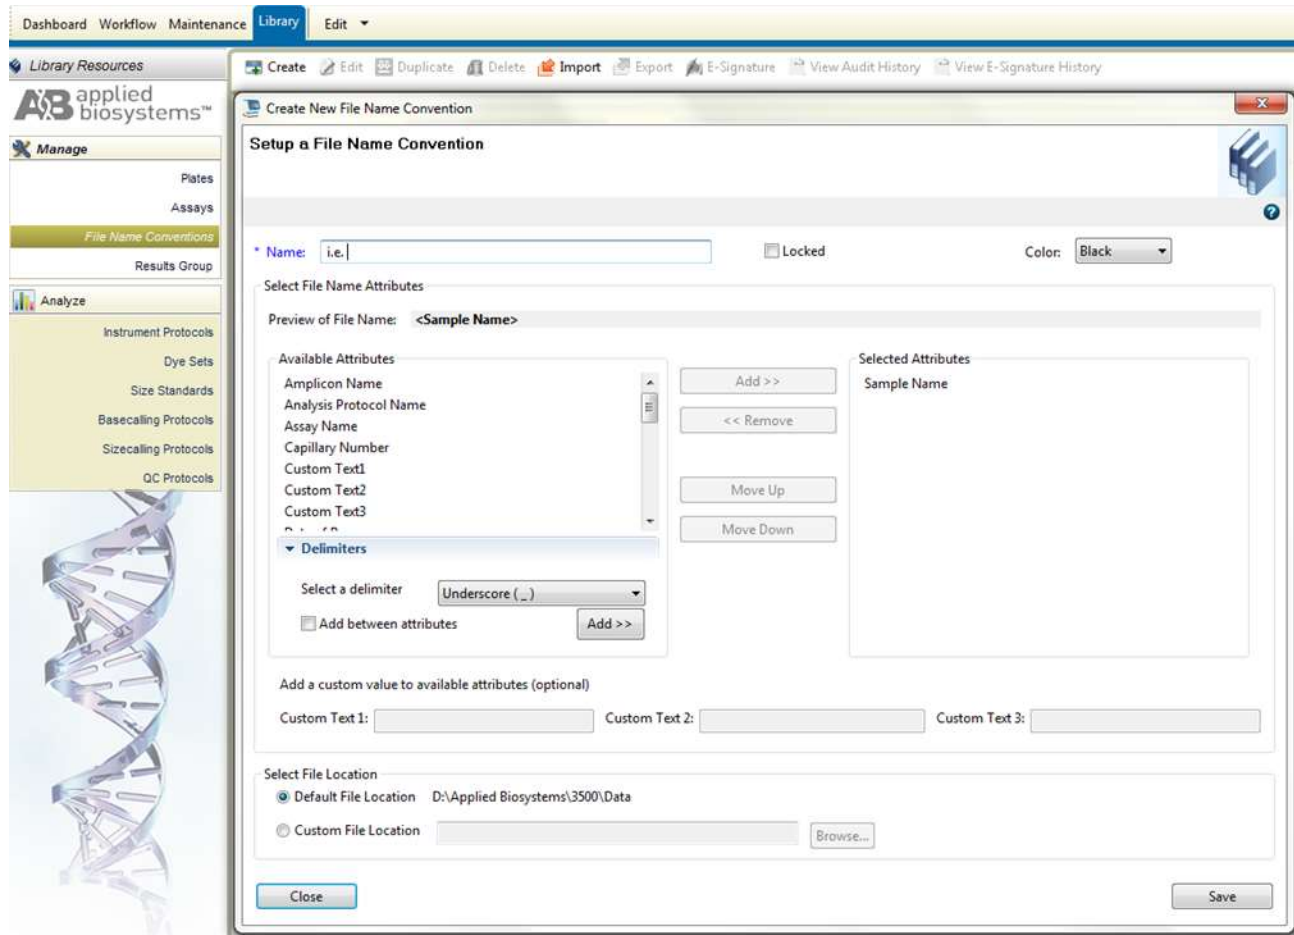

Figure 9. Screenshot for the “Create New File Name Convention” window on Applied Biosystems 3500 Data Collection software
- c) select “*Create*” (Figure 9)